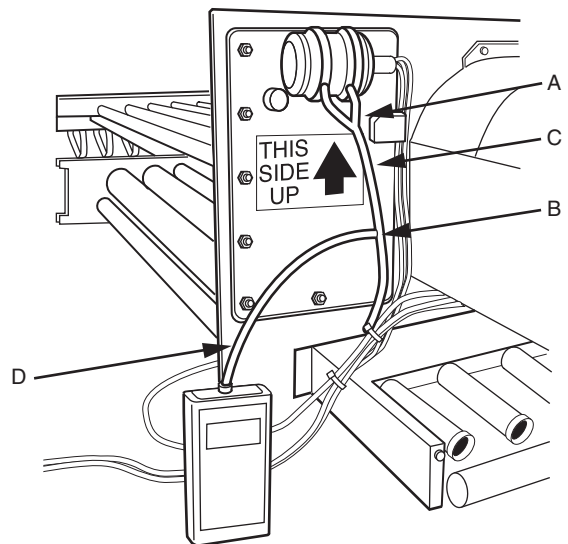

Fig. 87 – Draft Fan Pressure Measurement
1. Remove air pressure supply tube from fan at pressure switch connection. See Fig. 87, A.
2. Insert “T” into supply tube. See Fig. 87, B.
3. Attach additional piece of tubing from “T” to pressure switch. See Fig. 87, C.
4. Connect remaining leg of “T” to pressure measuring device (measure in. wg). See Fig. 87, D.